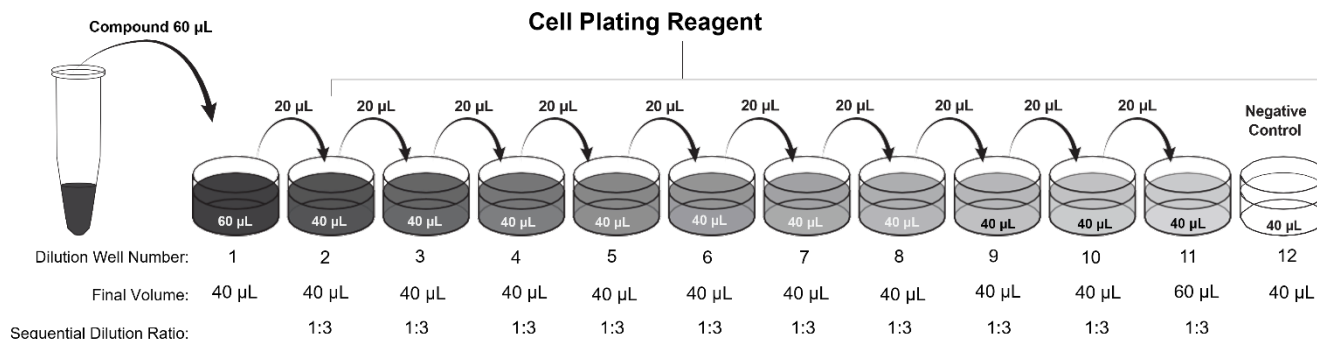

Figure 8. Compound serial dilutions - Antagonist
2. Prepare an 11-point series of 3-fold antagonist (compound) serial dilutions in Cell Plating Reagent, in a separate dilution plate or vials as shown in the workflow below (Figure 8).
- d. Add 60 μ L of the highest concentration of antagonist compound to well number 1 (Figure 8).